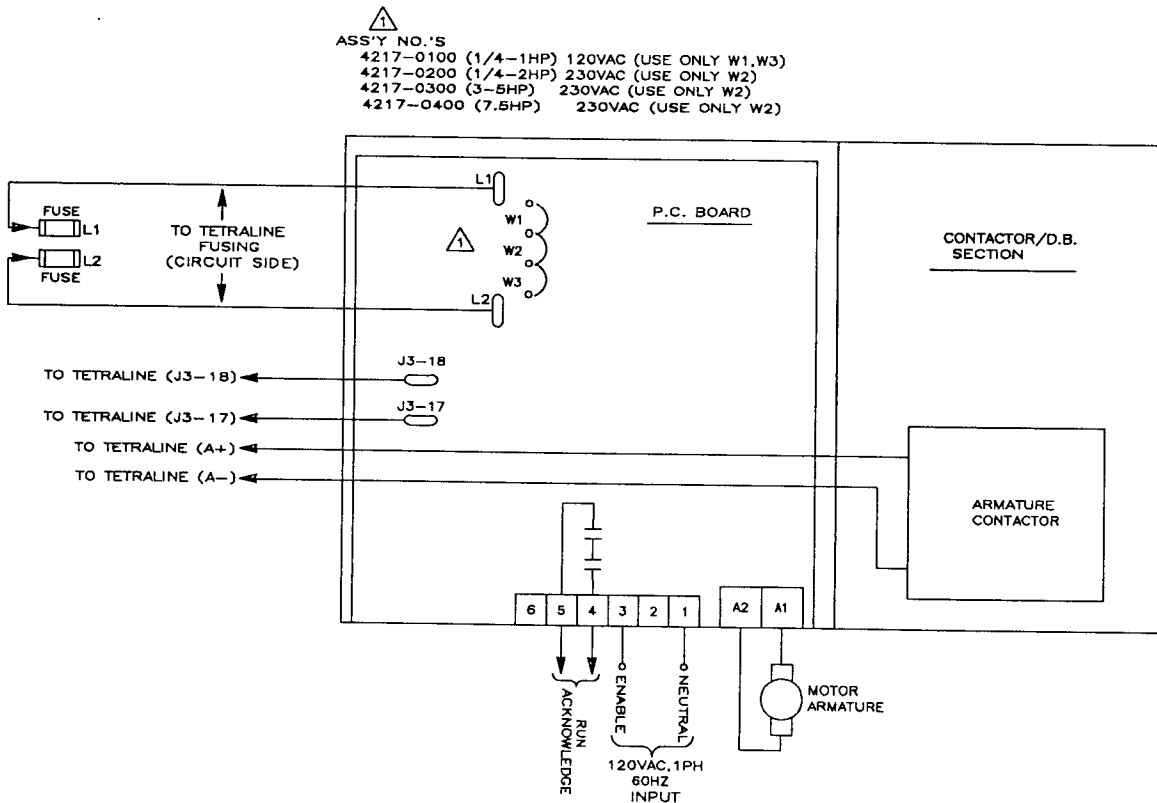

Fig. 14 - Interconnection Information
P.C. Interface with Start/Stop Contactor and Dynamic Braking is a separate chassis mount option that inter-wires to the Tetra-Line. It provides a contactor for disconnecting the motor armature from the armature output of the Tetra-Line. When the armature contactor is disabled, a brake resistor is connected across the motor armature for Dynamic Braking. The armature contactor and the Tetra-Line are enabled by applying 120 VAC from an external source such as a PLC to the option. When A.C. power is applied to the Tetra-Line and the armature contactor is enabled, a set of isolated relay contacts close providing a closed circuit for "Talk back" to the PLC or other logic. (See Fig. 14 connection diagram).